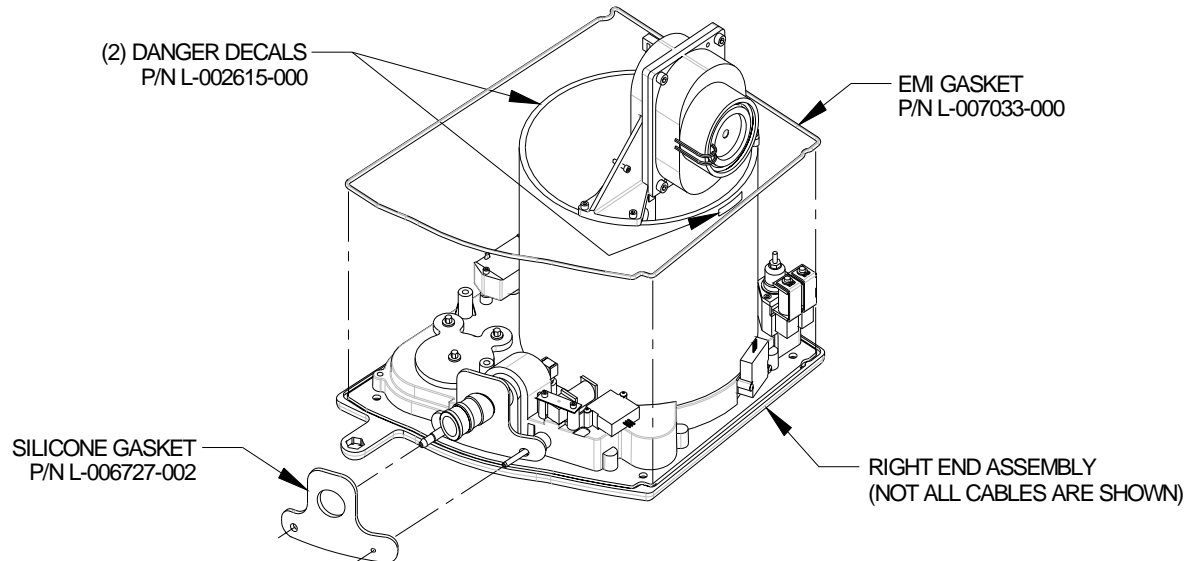

FIGURE 5-1.
1. Verify the EMI gasket, P/N L-007033-000, is installed in the groove around the outer edge of the right end plate. See Figure 5-1.
2. Verify the silicone gasket, P/N L-006727-002, is installed over the patient air port, patient pressure tube and exhalation tube. See Figure 5-1.